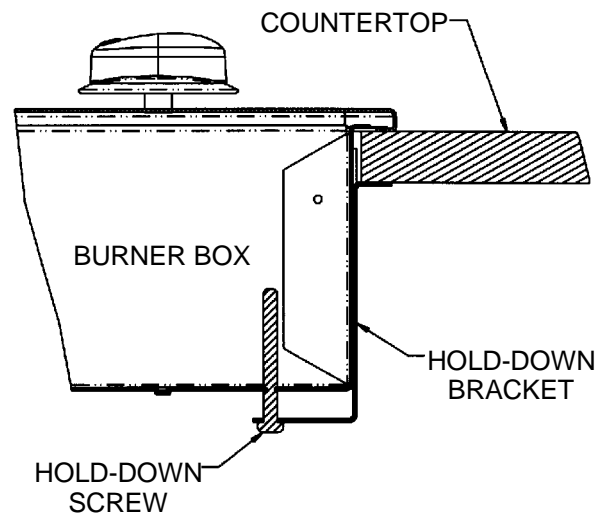

FIGURE 19
4. Remove hold down brackets. (See figure 19).